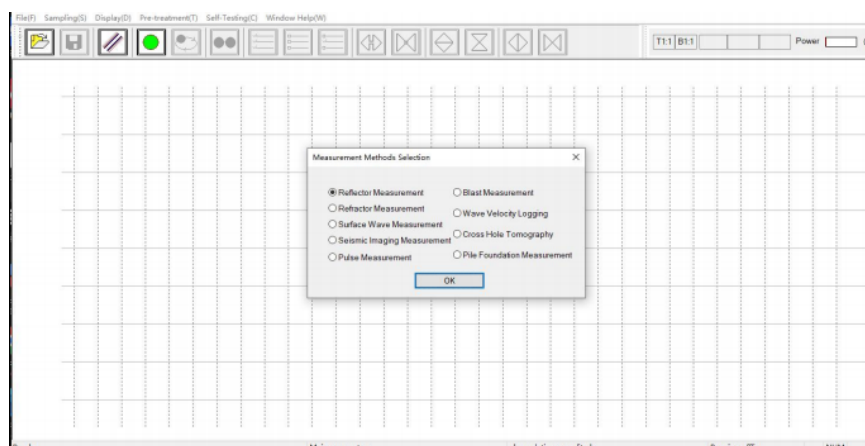

Figure 4.1e
4. Click "OK" on the interface of Figure 4.1d, and wait for several seconds until the software enters the main interface of acquisition, as shown in Figure 4.1e. Click "OK".